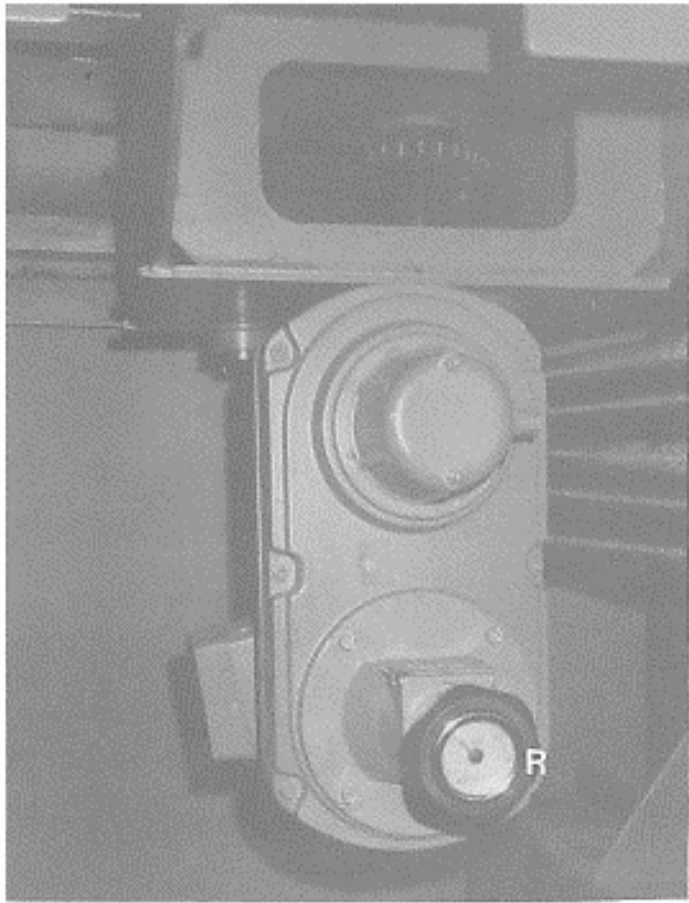

FIG 27
- 1) Variable drive unit (Fig.27). gives feed speeds ranging from 7 m/min to 40 m/min.
The speed is adjusted by handwheel ('R' Fig.27). A dial is fitted to indicate the feed speed.